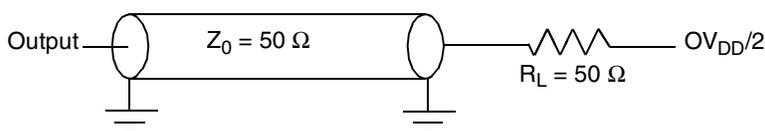

Figure 4. AC Test Load
- All input specifications are measured from the midpoint of the signal in question to the midpoint of the rising edge of the input SYSCLK. All output specifications are measured from the midpoint of the rising edge of SYSCLK to the midpoint of the signal in question. All output timings assume a purely resistive 50-Ω load (see Figure 4). Input and output timings are measured at the pin; time-of-flight delays must be added for trace lengths, vias, and connectors in the system.
- The symbology used for timing specifications herein follows the pattern of $t_{(\text{signal})(\text{state})(\text{reference})(\text{state})}$ for inputs and $t_{(\text{reference})(\text{state})(\text{signal})(\text{state})}$ for outputs. For example, t_{VKH} symbolizes the time input signals (I) reach the valid state (V) relative to the SYSCLK reference (K) going to the high (H) state or input setup time. And t_{KHOV} symbolizes the time from SYSCLK(K) going high (H) until outputs (O) are valid (V) or output valid time. Input hold time can be read as the time that the input signal (I) went invalid (X) with respect to the rising clock edge (KH)— note the position of the reference and its state for inputs—and output hold time can be read as the time from the rising edge (KH) until the output went invalid (OX).
Figure 4 provides the AC test load for the MPC7410.